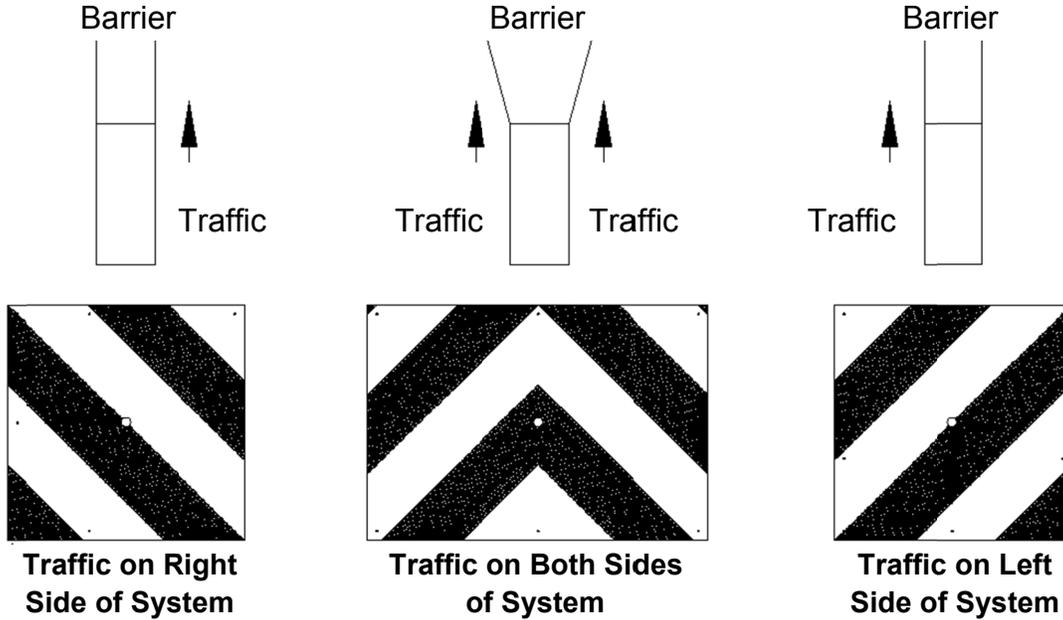

Figure 23 - Nose Cover Selection
1. Ensure appropriate Nose Cover is attached (see Figure 23). The Nose Cover Selection below will assist in your selection and you should refer to local standards and MUTCD for nose.